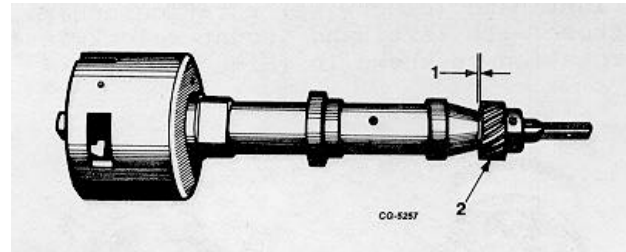
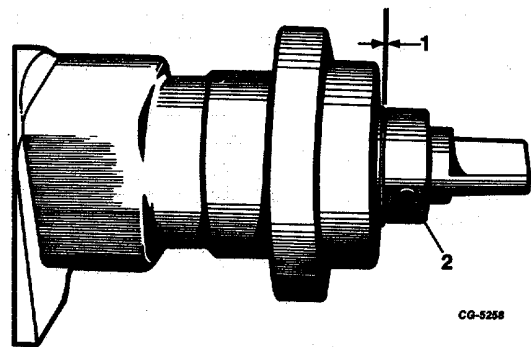

Fig. 16. Checking Distributor Shaft End Play (Thrust Washer-to-Gear Clearance) (Typical)
Fig. 17. Checking Distributor Shaft End Play (Thrust Washer-to-Thrust Collar Clearance) (Typical)
5. Measure and record distributor shaft end play (Figures 16 and 17). Measure end play between thrust washer and gear (Figure 16) or thrust washer and thrust collar (Figure 17). If end play exceeds specified limits, thrust washers (upper and lower) should be replaced. Excessive end play could result in failure or improper engine timing.